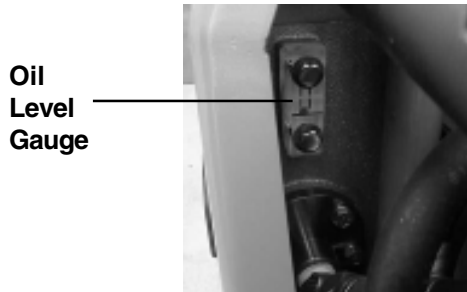

Figure 14. Checking Oil Level Gauge
1. Check the oil tank level gauge (Figure 14). Oil level should be at the upper indication of the gauge.